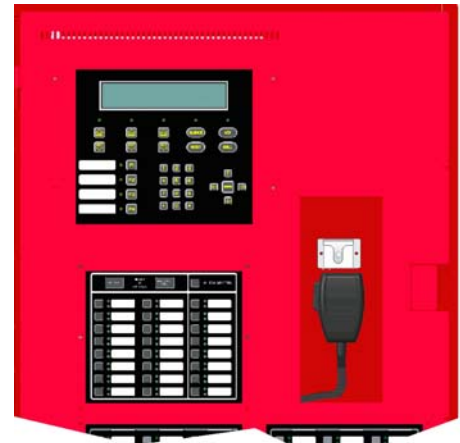

Figure 6: Hang Microphone into Microphone Clip
1. Clip the microphone into the microphone clip. See Figure 6.